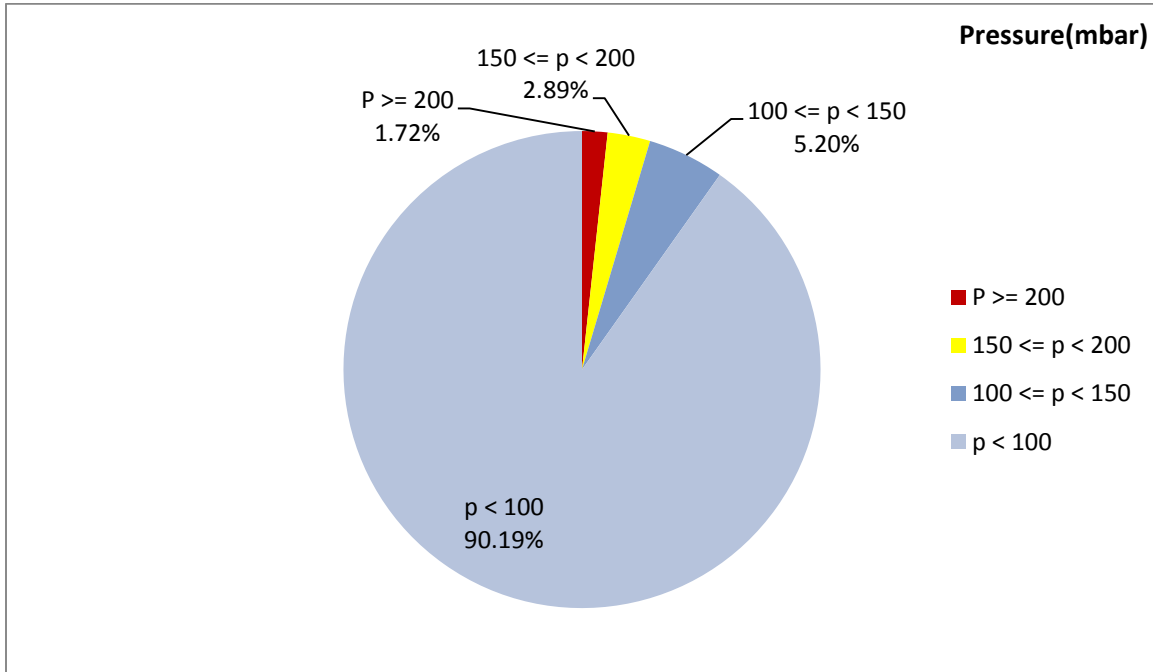

Figure 1- Pressure distribution over the working hours
- As depicted in figure 1, 1.72% of total working time pressure is above 200 mbar and 4.61% above 150mbar. Additive system defect was the reason of back pressure rise.